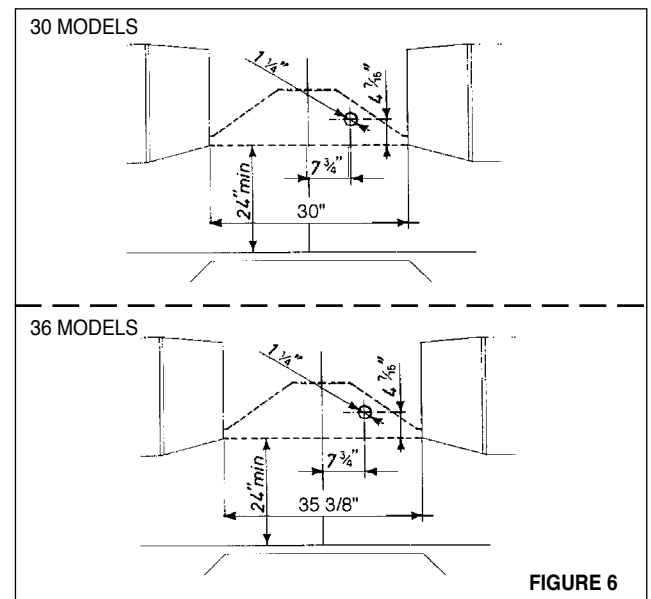

FIGURE 6
6. Determine the proper location for the Power Supply Cable (FIGURE 6). Use a 1 1/4" Drill Bit to make this hole. Run the Power Supply Cable. Use caulking to seal around the hole. **DO NOT** turn on the power until installation is complete.